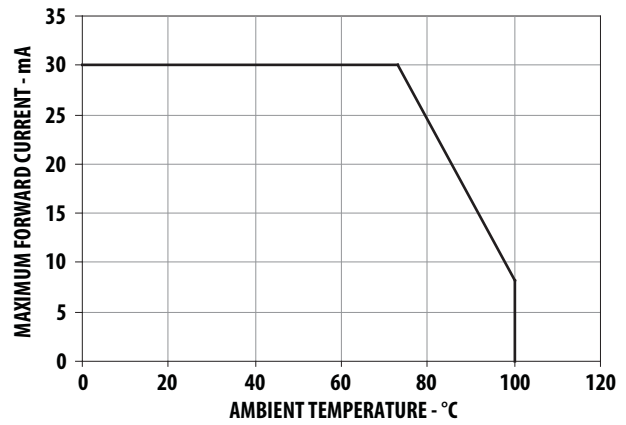

Figure 4. Maximum Forward Current Vs. Ambient Temperature. Derated Based on  $T_{JMAX} = 110^{\circ}C$ ,  $R\theta_{JA} = 300^{\circ}C/W$
1. Derate linearly as shown in Figure 4.